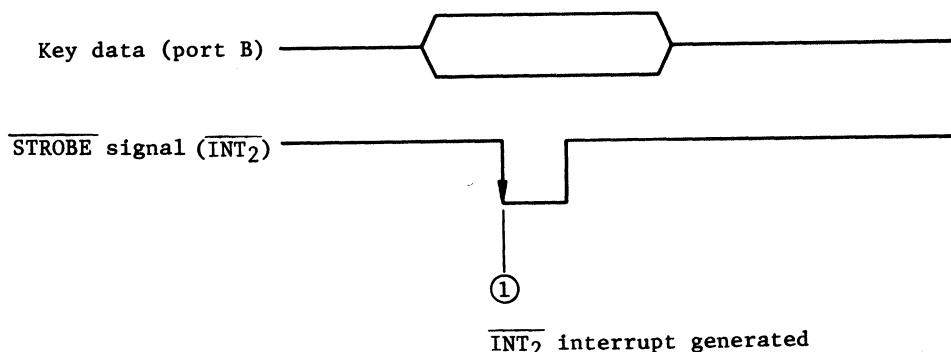

Fig. 2 ASCII Keyboard Timing Chart
(5) Hardware Operation
Timing chart for STROBE signal and key data output are shown in Fig. 2. When STROBE signal is output from ASCII keyboard, INT₂ interrupt is generated at the falling edge ① and the HD6305X0 reads port B data.